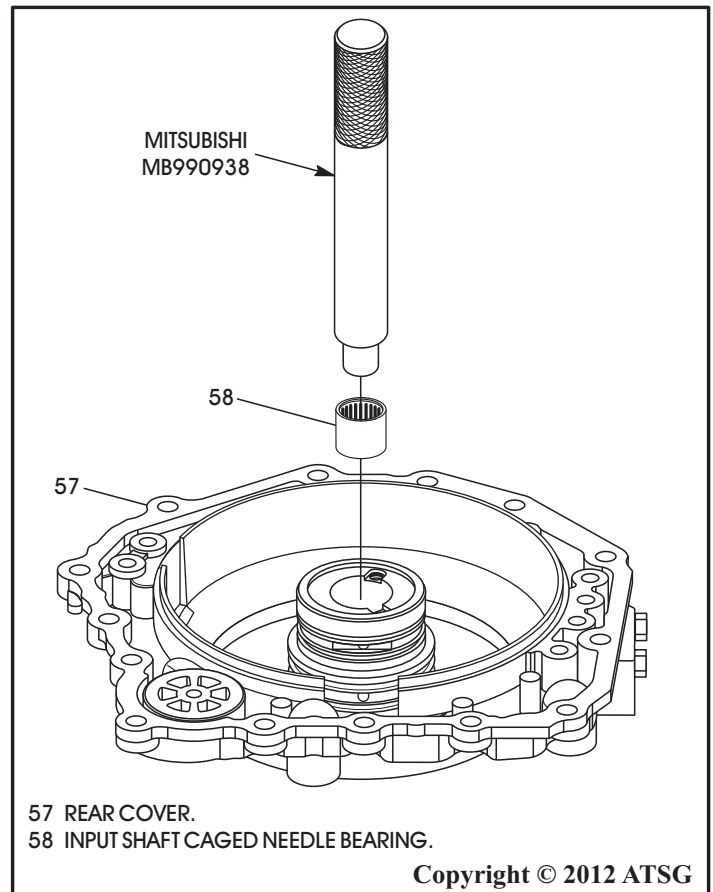

Figure 108
3. Install new input shaft caged needle bearing, as necessary, using the proper driver, as shown in Figure 108.